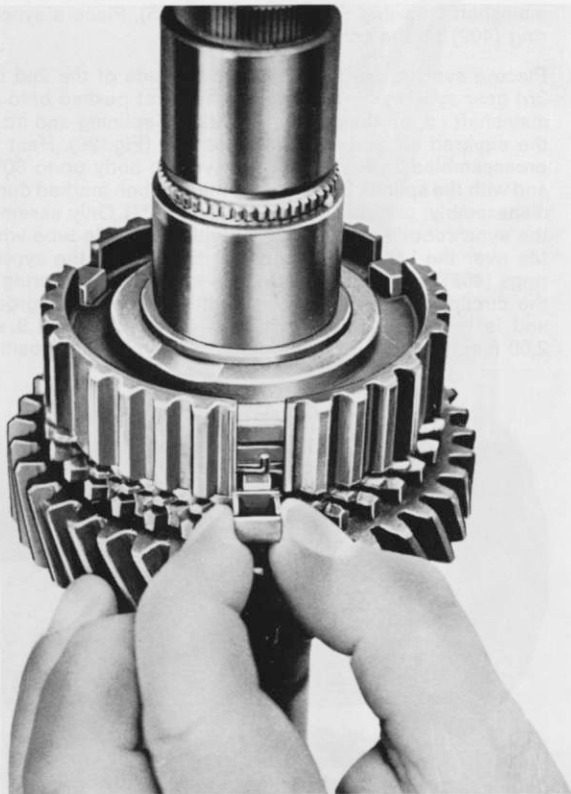

Fig. 28
4. Attach the 3 pressure pieces (404) with grease to the assembled synchro spring such that the wire is fixed in the recesses of the pressure pieces. The squared off end of the synchro spring must come to lie on the inside of a pressure piece (Fig. 28) so that the spring cannot distort.
13. Stick the 3 pressure pieces (404) with grease on the assembled synchro spring (403) (see Fig. 28). The wire must stick in the grooves of the pressure pieces and the squared off ends lie on the inner side of the pressure piece.
9. Take off tape. Stick the 3 pressure pieces (404) with grease onto the installed synchro spring on synchro body 4th and 5th gear (405) such that the wire is fixed in the recesses and the squared off end on the inner side of a pressure piece (see Fig. 28).